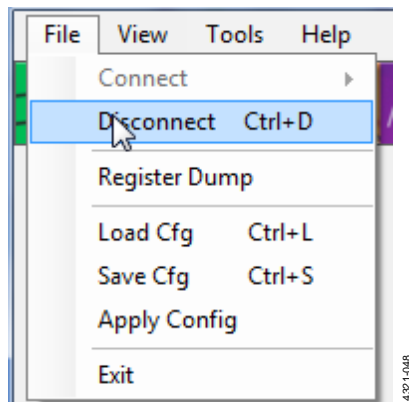

Figure 51. Disconnect
1. Disconnect the device via **File > Disconnect Ctrl+D**, as shown in Figure 51.